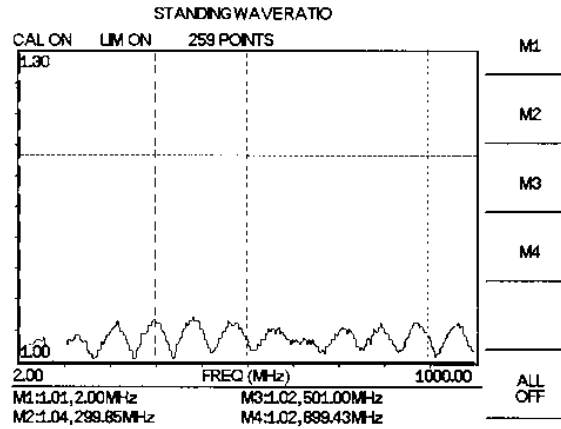

Figure 4-5. Cable SWR Measurement Results
- Step 25.** Repeat steps 22 and 23 for marker M2. Set M2 to 300 MHz, M3 to 500 MHz, and M4 to 900 MHz (Figures 4-5 and 4-6 depict the SWR and Return Loss measurements).